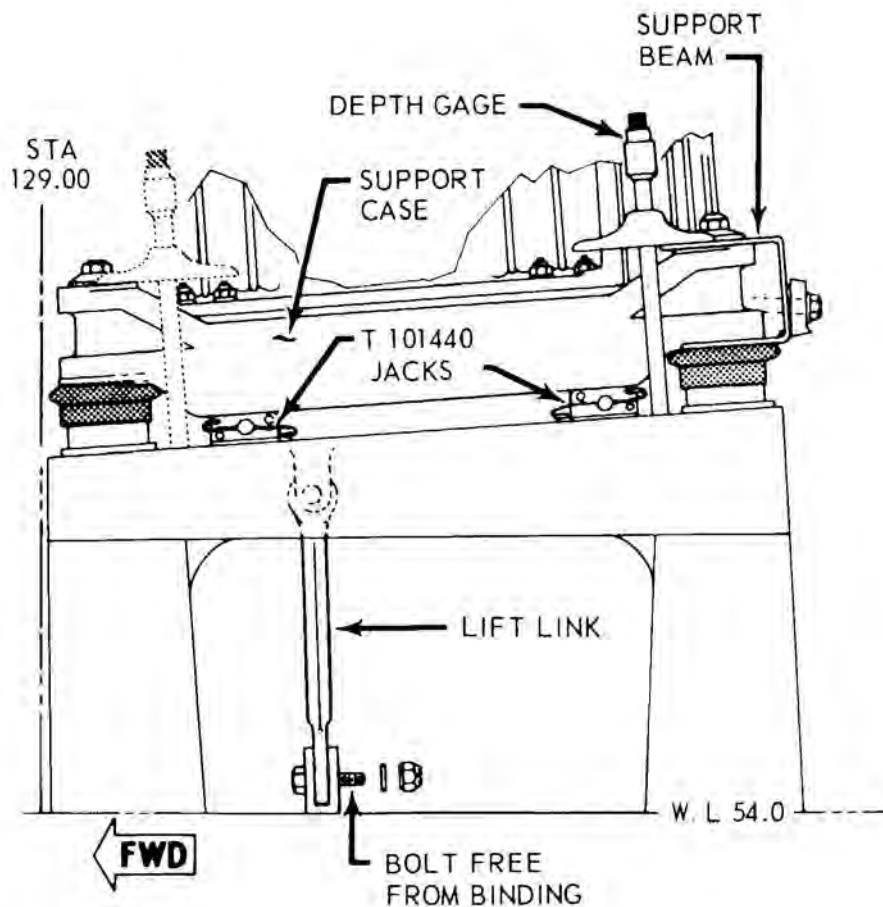

Figure 71-4. Positioning Pylon for Driveshaft Alignment
71.1.1.3.3.2 Use maintenance hoist to raise pylon to position where lower bolt of lift link can be moved freely with nut and washer removed. (Refer to Figure 71-4.) Replace bolt if binding occurs due to corrosion or galling. Check upper bolt with nut and washer removed. Replace bolt if binding occurs due to corrosion or galling. Apply grease (C-001) to bore and OD of bushing.
71.1.1.3.3.5 Determine that transmission support points are symmetrically parallel with pylon support structure by measuring at each mount with a micrometer depth gage. (Refer to Figure 71-4.)